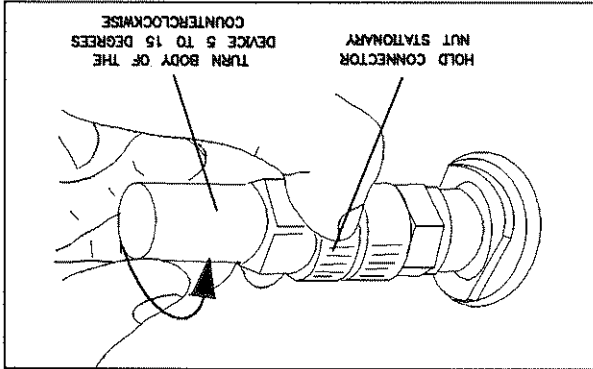

Figure 3-29. Seating a Precision 7 mm Connector
1. After making the preliminary connection (using light finger pressure), hold the connector nut stationary with one hand. With the other hand, gently turn the body of the connecting device 5 to 15 degrees opposite the direction of tightening (Figure 3-29). You should feel smooth, uniform movement, without resistance. You may feel a sudden, slight "breaking loose" of the connection when you rotate the connected device. This happens as the mating plane surfaces or the connector nut threads move into correct alignment, and it slightly loosens the connector nut.